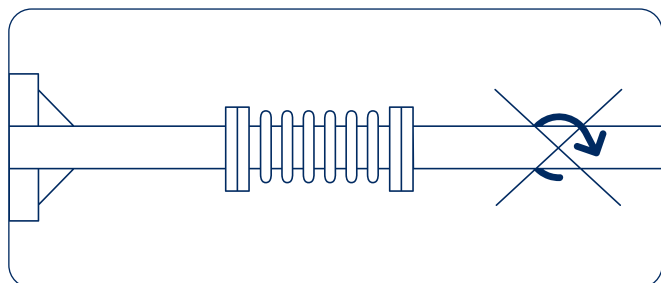

Fig. 1
- Avoid excessive movements and torsion (twisting) at all, during installation and operation (Fig. 1)